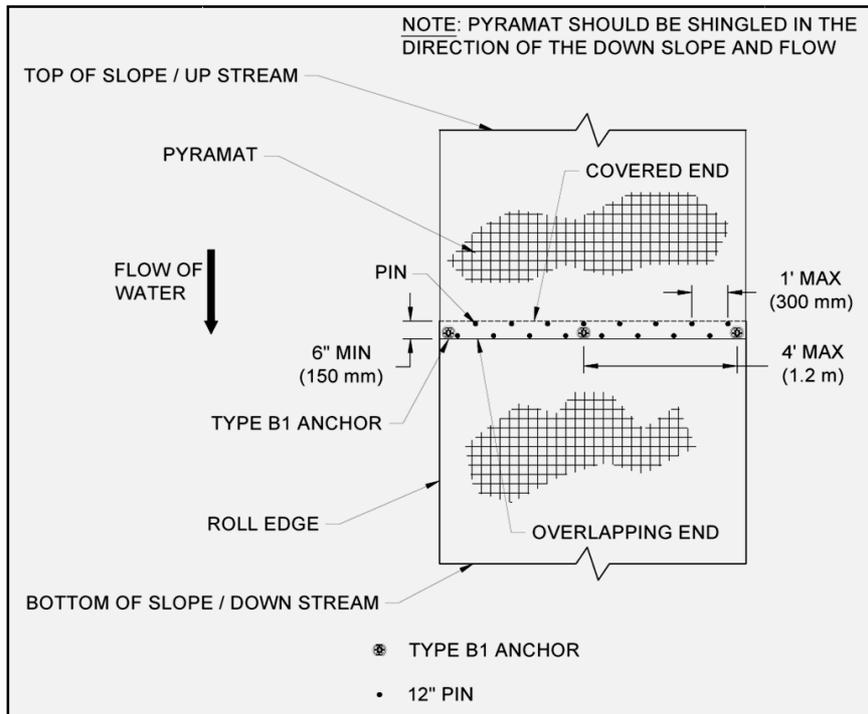

Figure 24: Roll End Overlap
12. Overlap the upstream Pyramat panels a minimum of 6 in (150 mm) overtop of the downstream Pyramat panels following the roll end anchoring requirements outlined below (Figure 24).
- b. Roll ends shall be overlapped a minimum of 6 in (150 mm) with upstream panel on top. Secure roll end overlaps with two rows of pins staggered 6 in (150 mm) apart on 12 in (300 mm) centers and with one row of PDEAs on 4 ft (1.2 m) centers (Figure 24)